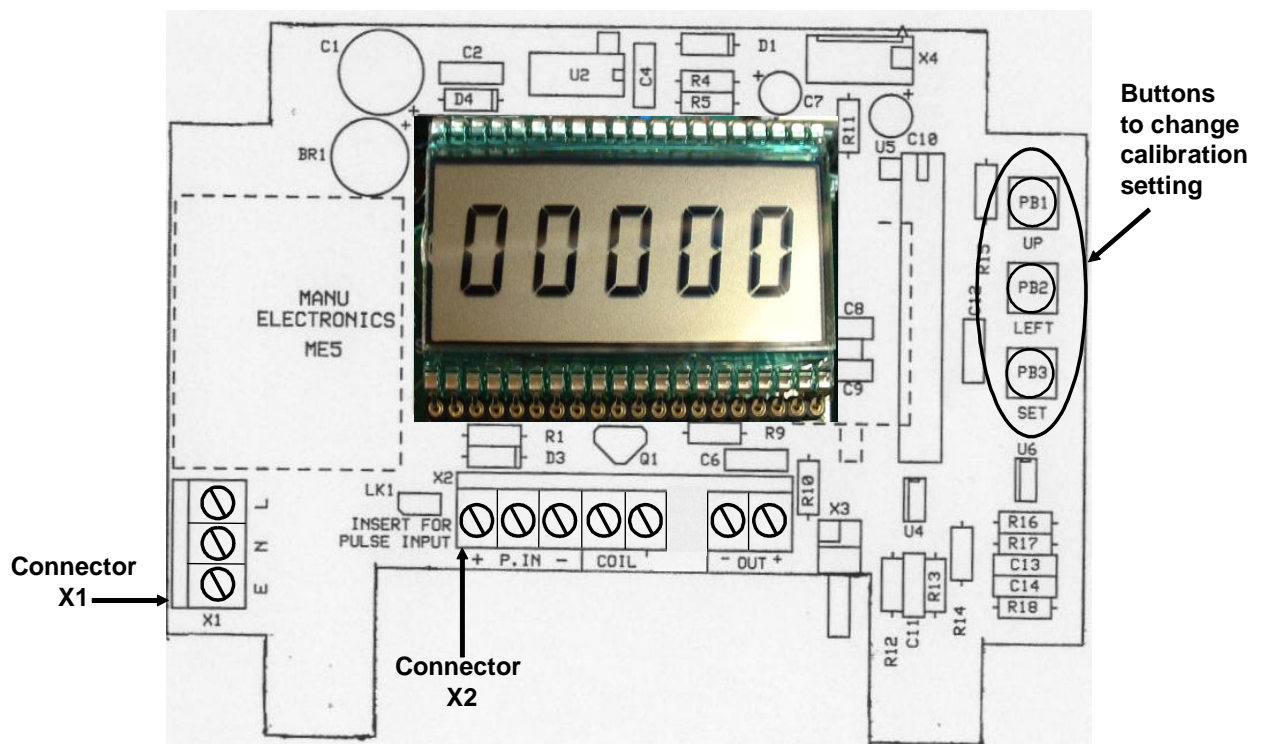

Figure 2. ME5-F Internal PCB - Connectors and Calibration Buttons.
| Figure 2. | ME5-F Internal PCB - Connectors and Calibration Buttons..... | 4 |
Power supply connections are made by running the power cable through the cable entries of the enclosure, to the screw terminal connectors located on the Printed Circuit Board (PCB) inside the ME5-F (see Figure 2 below). The PCB is accessible by removing the four Stainless Steel screws and the front panel from the enclosure.
- firstly removing the lid of the ME5-F to access the Calibration Buttons on the internal PCB (see Figure 2 on page 4); then
The internal Calibration Buttons 'UP', 'LEFT' and 'SET' are on the internal PCB board (see Figure 2, page 4).